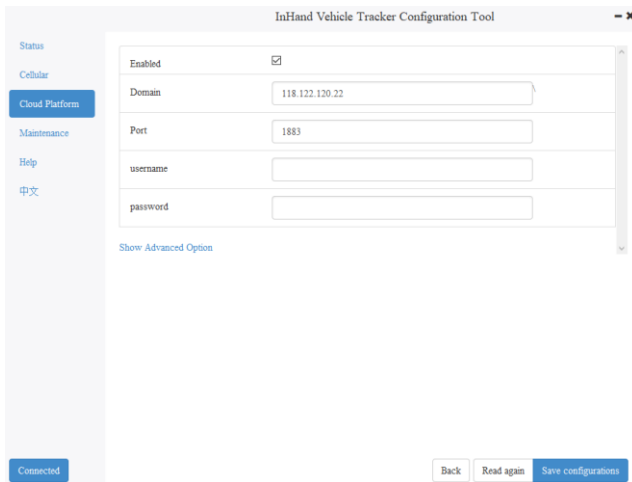

Figure 6-8
Step 5: If you select the MQTT Broker platform, select **Enabled** and set the **Domain**, **Port**, **username**, and **password** parameters. Click **Save configurations** and restart the device. Figure 6-8 shows the configuration page.